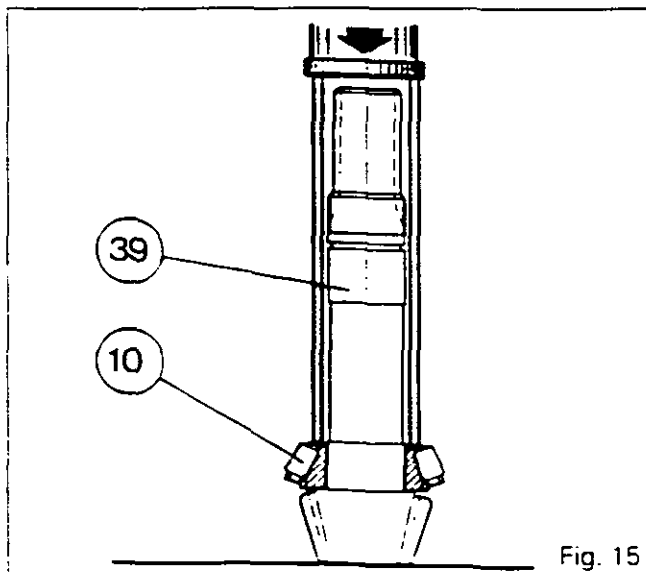
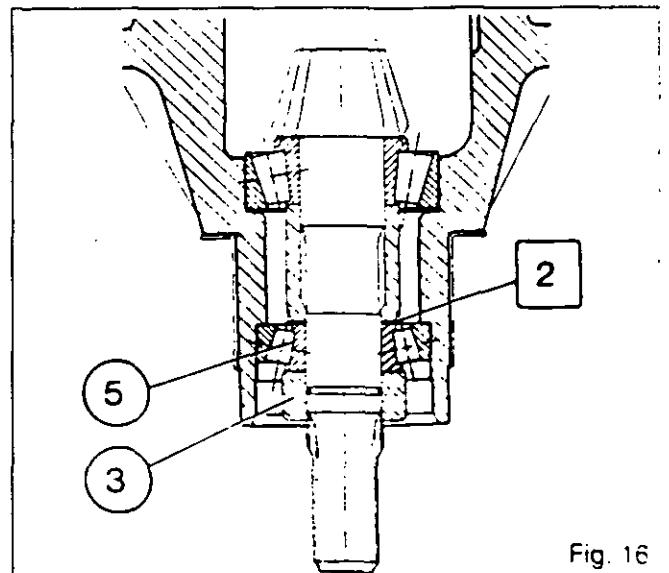

Fig. 15
Fig. 16
45. Position the cup (9) and the bearing cone (10) in the casing (7) without the shims [8]. Using a depth gauge, measure dimension A. Take care to seat the bearing cone correctly in the cup. Having taken the measurement, apply the formula to determine the thickness of the shims needed.
46. Remove the bearing cone (10) and cup (9) again.
47. Push the bearing cone (10) against the shoulder of the bevel drive pinion using a press and a suitable tool (Fig. 15).
49. Fit the cup (9).
50. Place the cup (6) in the casing as far as it will go.
51. On the bevel drive pinion prepared with cone (10), engage the spacer [45] with its chamfer facing the bevel drive pinion splines.
52. Place the bevel drive pinion assembly into the casing and fit the shims [2], then fit cone (5) and spacer (3) (Fig. 16).